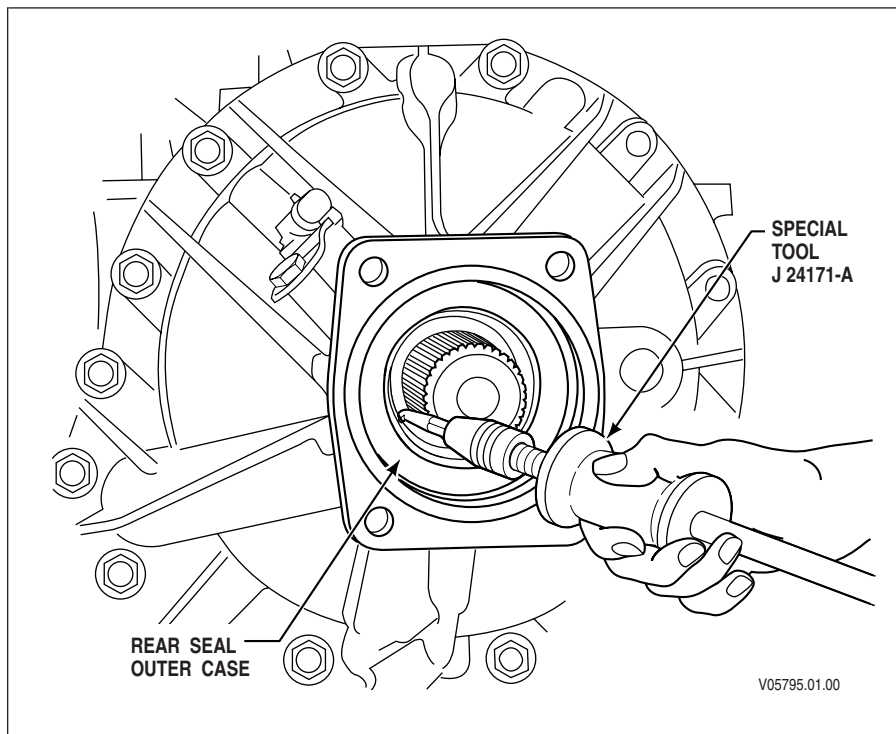

Figure 6-3. Rear Seal Removal
7. Position the 90 degree hook behind the rear face of the seal outer case (refer to Figure 6-3).